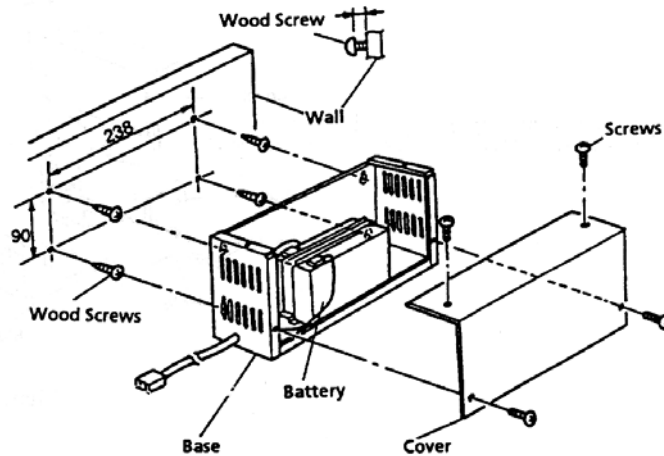

Figure 2-8: Mounting the External Battery Cabinet
3. Mount the two External Battery Cabinets close to the KSU using the wood screws supplied and replace the cover using the four screws. (Refer to *Figure 2-8: Mounting the External Battery Cabinet, Pg 51.*)